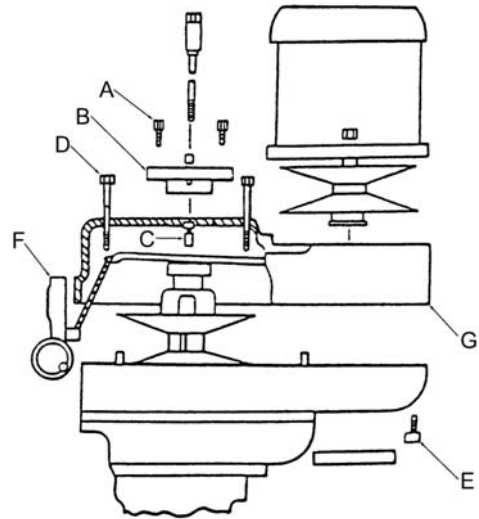

Figure 16
3. Remove the three screws (A, Fig. 16). Thread the screws into the adjacent tapped holes and back off the cover (B, Fig. 16).
4. Remove the two screws and bushings (C, Fig. 16) from the tilting plate.
5. Remove four screws (D, Fig. 16) and one screw (E, Fig. 16).
6. Remove four screws from the variable speed housing (F, Fig. 16).
7. Remove the top housing (G, Fig. 16) and tap to clear dowels.